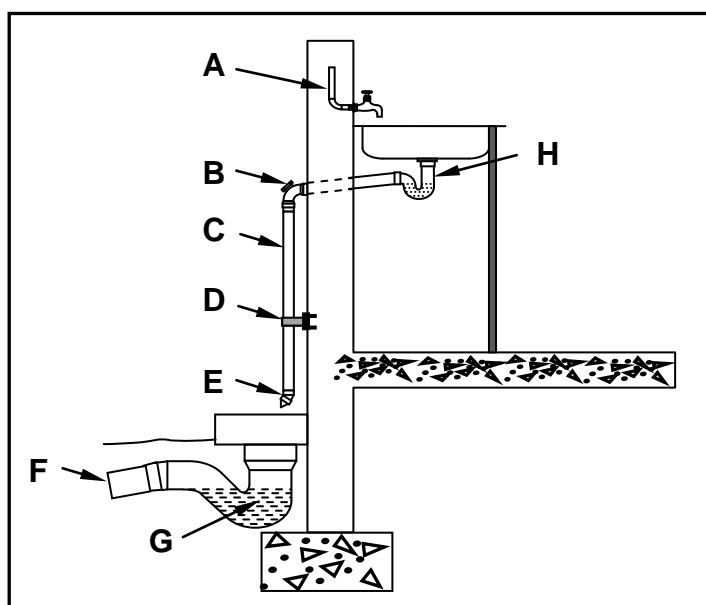

FIGURE 3.3
3.3 FIGURE 3.3 below shows the installation of a sink in a kitchen. Study the drawing and answer the questions that follow.